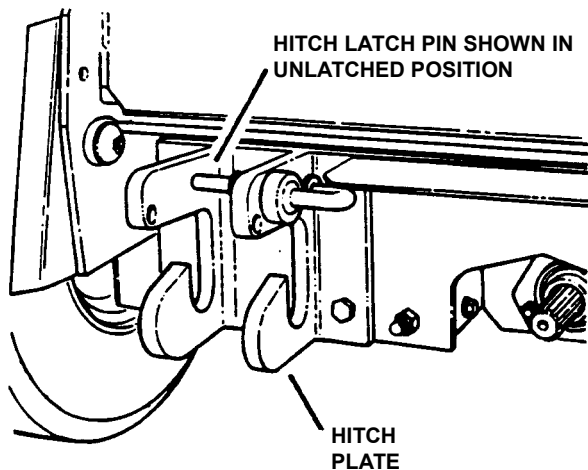

FIGURE 4.10
4. Rotate spring loaded hitch latch pins (Located on both hitch plates) to the unlatched position. See Figure 4.10.